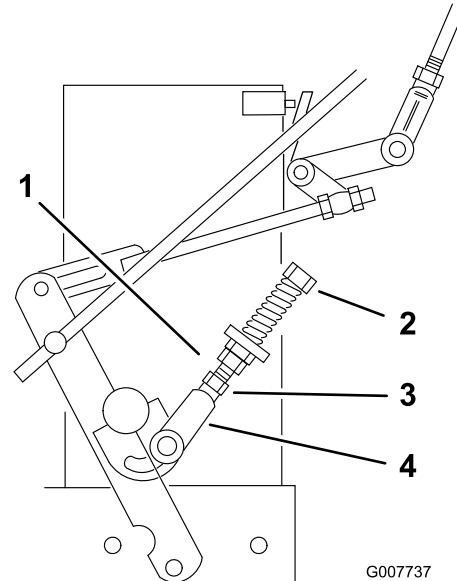

Figure 32
9. If the wheel turns while holding the drive lever in neutral, the neutral control linkages need to be adjusted (Figure 32). If wheel stops then go to step 12.
10. Loosen the nut against the neutral control linkage yoke (Figure 32).
11. Adjust the neutral control linkage until the respective drive wheel stops while the drive lever is pulled against the neutral spring (neutral position) (Figure 32).
12. Turn the adjusting bolt approximately 1/4 turn clockwise if the wheel is turning in reverse or turn the bolt approximately 1/4 turn counter-clockwise if the wheel is turning forward (Figure 32).